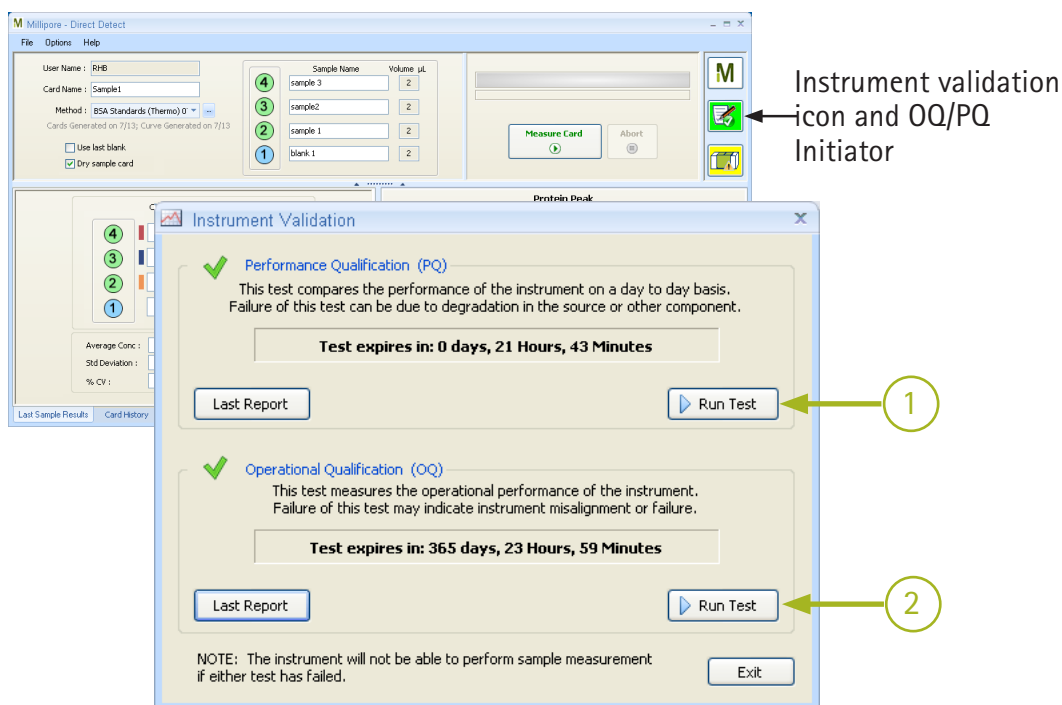

Figure 28. Running OQ/PQ tests
3. When the instrument validation dialog appears, click on the Performance Qualification (PQ) Run Test button (1) (Figure 28). The test takes about 5 minutes.